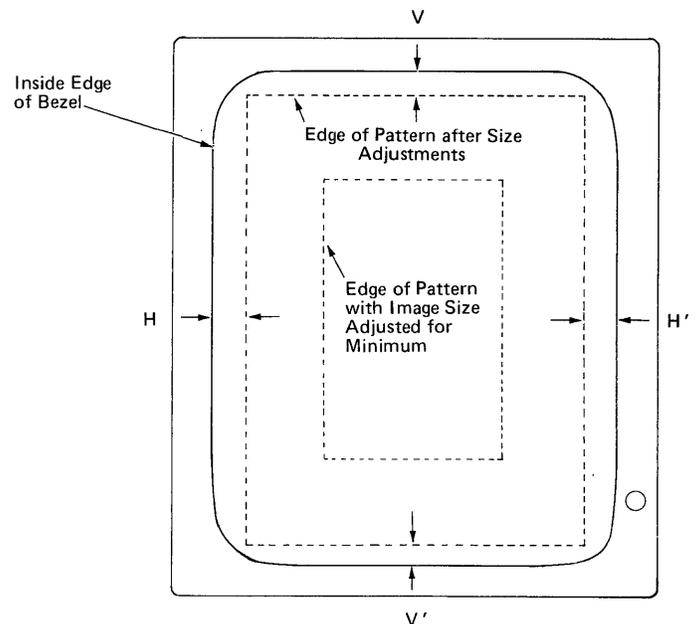

Figure 4-15. Image Size Adjustments
7. Adjust R203 to increase the image height until the sum of the dimensions V and V' is 20 to 25 mm (0.8 to 1.0 inches). (See Figure 4-15.)